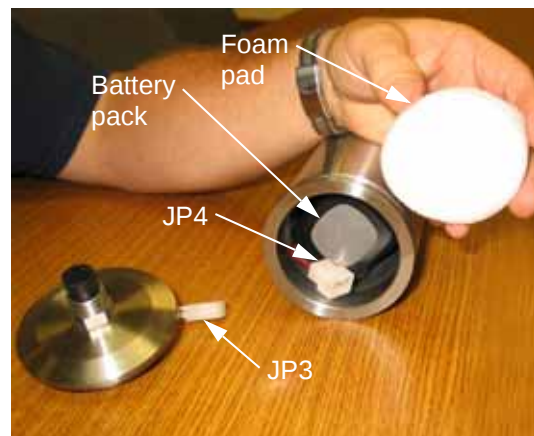
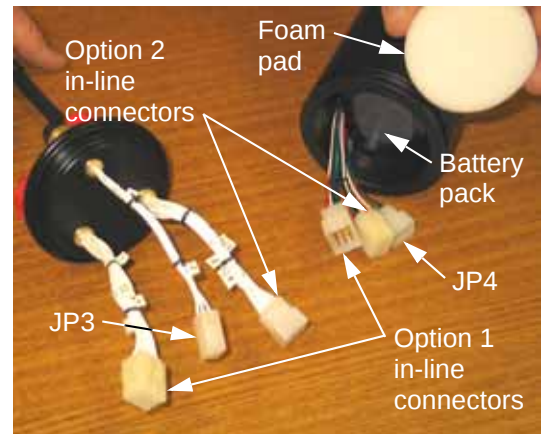

Figure 6-4: Disconnecting the JP3 and JP4 In-Line Connectors
Figure 6-5: Disconnecting the JP3 and JP4 In-Line Connectors, with Options Connectors
- 4 Disconnect the in-line connectors JP3 and JP4 and remove the foam pad as shown in Figure 6-4, exposing the battery pack. If the Option 1 and Option 2 connectors are installed, refer instead to Figure 6-5.
Note: *The Option 1 and Option 2 in-line connectors in Figure 6-5 are shown disconnected for identification purposes. You do not have to disconnect these connectors if you are only replacing the battery pack.*